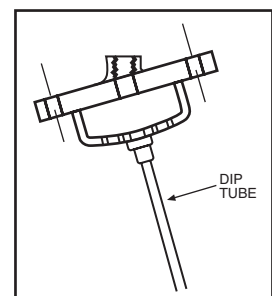

Figure 4
8. Attached to the upper flange is the bladder support and dip tube/hose (Figure 4). Replace the dip tube/hose with the new one provided in package.